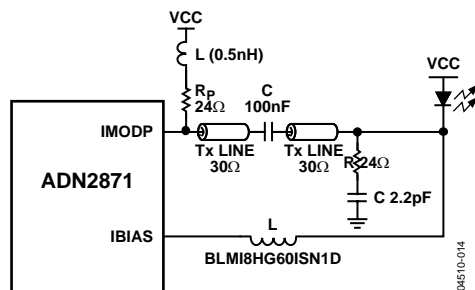

Figure 30. Recommended Interface for ADN2871 AC Coupling
The schematic in Figure 30 describes the recommended circuit for interfacing the ADN2871 to most TO-Can or Coax lasers. These lasers typically have impedances of  $5\ \Omega$  to  $7\ \Omega$ , and have axial leads. The circuit shown works over the full range of data rates from 155 Mbps to 3.3 Gbps including multirate operation (with no change to PAVCAP and ERCAP values); see the Typical Operating Characteristics for multirate performance examples. Coax lasers have special characteristics that make them difficult to interface to. They tend to have higher inductance, and their impedance is not well controlled. The circuit in Figure 30 operates by deliberately mismating the transmission line on the laser side, while providing a very high quality matching network on the driver side. The impedance of the driver side matching network is very flat versus frequency and enables multirate operation. A series damping resistor should not be used.
The 30  $\Omega$  transmission line used is a compromise between drive current required and total power consumed. Other transmission line values can be used, with some modification of the component values. The R and C snubber values in Figure 30, 24  $\Omega$  and 2.2 pF, respectively, represent a starting point and must be tuned for the particular model of laser being used. Rp, the pull-up resistor is in series with a very small (0.5 nH) inductor. In some cases, an inductor is not required or can be accommodated with deliberate parasitic inductance, such as a thin trace or a via, placed on the PC board.
Recommended component layouts and gerber files are available by contacting the factory. Note that the circuit in Figure 30 can supply up to 56 mA of modulation current to the laser, sufficient for most lasers available today. Higher currents can be accommodated by changing transmission lines and backmatch values; contact factory for recommendations. This interface circuit is not recommended for butterfly-style lasers or other lasers with 25  $\Omega$  characteristic impedance. Instead, a 25  $\Omega$  transmission line and inductive (instead of resistive) pull-up is recommended; contact the factory for recommendations.
**Table 6. ADN2871 Response to Various Single-Point Faults in AC-Coupled Configuration as Shown in Figure 30**